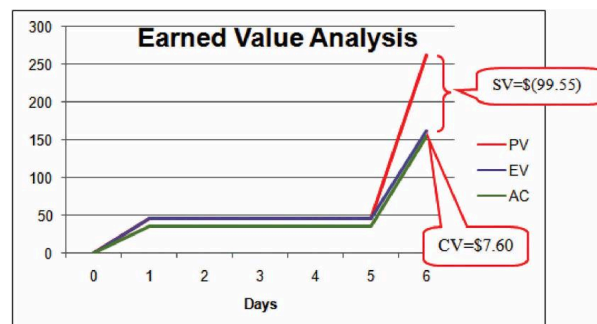

Figure 12.7 Schedule Variance and Cost Variance
The cost variance of positive \$7.60 and the CPI value of 1.05 tell John that he is getting more value for his money than planned for the tasks scheduled by day six. The schedule variance (SV) of negative \$99.55 and the schedule performance index (SPI) of 0.62 tell him that he is behind schedule in adding value to the project (Figure 12.7).